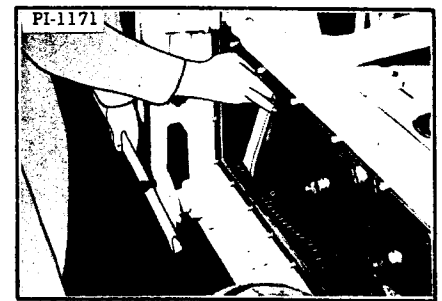

Fig. 69 Loosen Axle Sprocket Nut
11. Loosen the sprocket holding nut with the special open end wrench. Turn two hexagon head screws into the end of the axle and turn the axle with a bar. The wrench is used only to hold the nut. You do not have room inside the gearcase to turn the wrench (Figure 69).